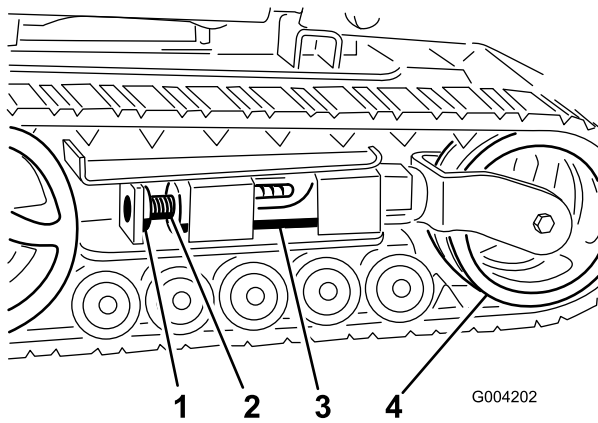
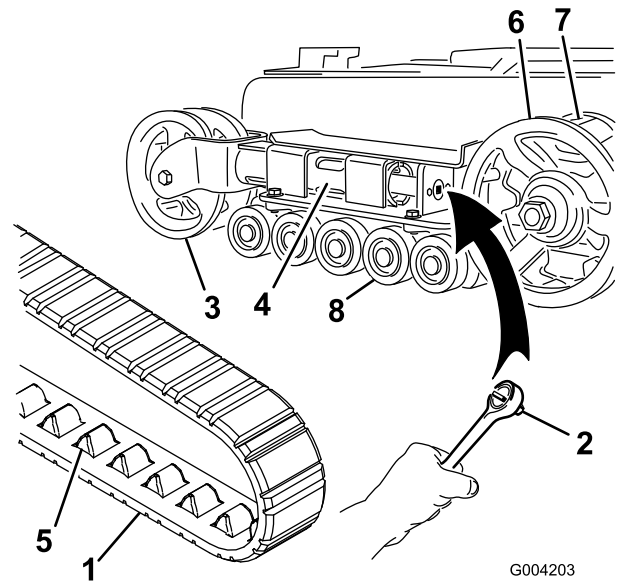
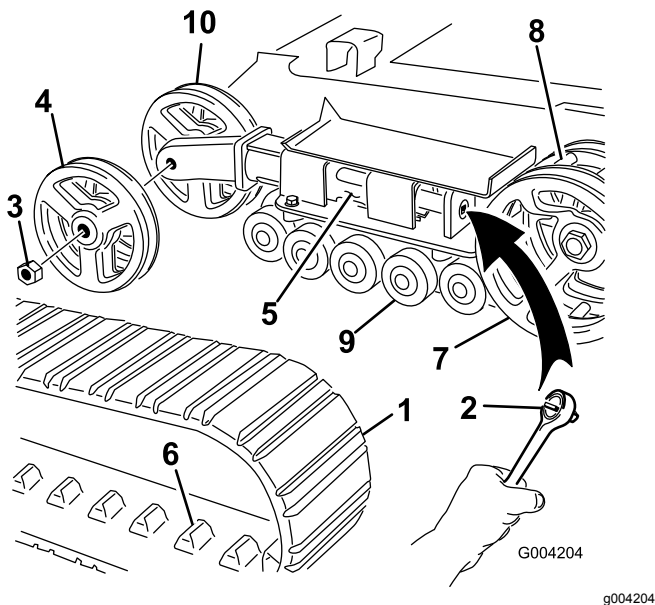

Figure 45
Figure 46
Figure 47
4. Remove the locking bolt and nut (Figure 45).
6. Align the closest notch in the tension screw to the locking bolt hole and secure the screw with the locking bolt and nut (Figure 45).
6. Push the tension wheel toward the rear of the unit to move the tension tube against the frame (Figure 46).
Note: You have narrow-width tracks if the front tension wheels are mounted inside a fork on the end of the tension tube (Figure 46).
5. Using a 1/2-inch drive ratchet, release the drive tension by turning the tensioning screw clockwise (Figure 45 and Figure 46).
8. When the track is off the tension wheel, remove it from the drive sprocket and road wheels (Figure 46).
9. Beginning at the drive sprocket, coil the new track around the sprocket, ensuring that the lugs on the track fit between the cogs on the sprocket (Figure 46).
10. Push the track under and between the road wheels (Figure 46).
Note: You have wide-width tracks if the front tension wheels are mounted on the sides of the end of the tension tube (Figure 47).
5. Using a 1/2-inch drive ratchet, release the drive tension by turning the tensioning screw clockwise (Figure 45 and Figure 47).
6. Push the tension wheel toward the rear of the unit to move the tension tube against the frame (Figure 47).
7. Remove the nut securing the outer tension wheel and remove the wheel (Figure 47).
8. Remove the track (Figure 47).
9. Remove the nut securing the inner tension wheel and remove the wheel (Figure 47).
13. Install the inner tension wheel and secure it with the nut removed previously (Figure 47).
15. Install the new track, ensuring that the lugs in the track fit between the cogs in the middle of the drive sprocket (Figure 47).
16. Install the outer tension wheel and secure it with the nut removed previously (Figure 47).
6. Place the greased road wheel cap over the bolt head (Figure 46).
7. Secure the road wheel cap with the snap ring (Figure 46).